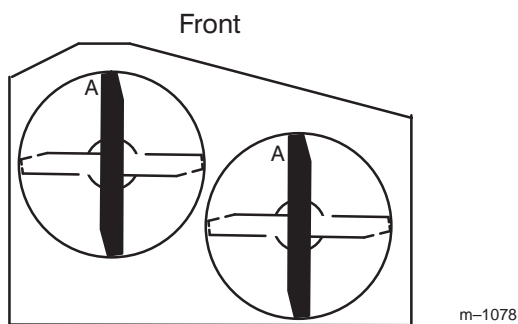
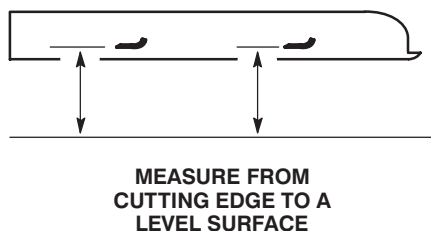

Figure 39
Figure 40
1. Rotate the blades until the ends face forward and backward (Fig. 39). Measure from a level surface to the cutting edge, position “A”, of the blades (Fig. 40). Note this dimension.